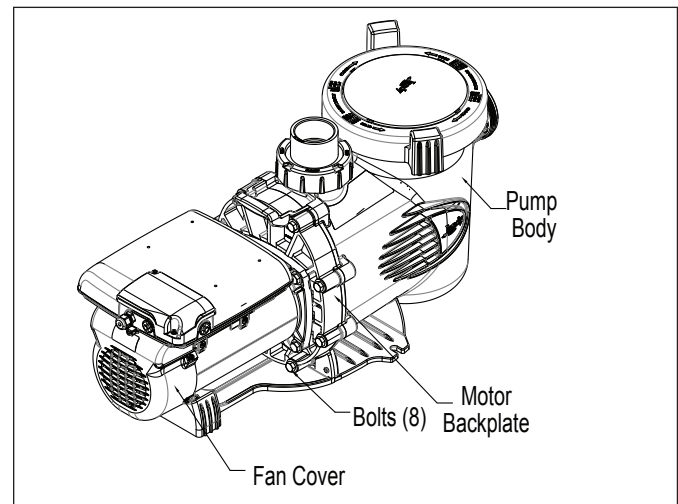

Figure 11. Remove the Pump Housing, Regal Beloit Motor
3. Using a 9/16" wrench, loosen the bolts connecting the pump body to the motor backplate. See Figure 11.